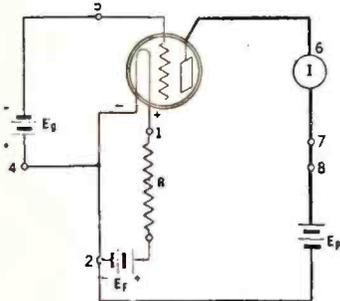

FIG. 2
- Connect up the apparatus in the following manner, as shown in Fig. 2: